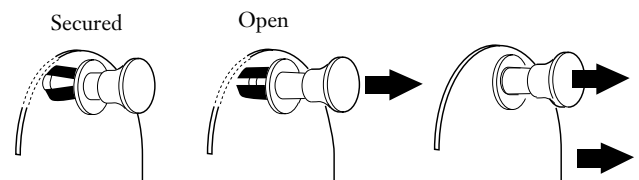

Figure 2
**3.1** Remove a blank panel by pulling out both of the plungers of the panel's push/pull fasteners (Figure 2).